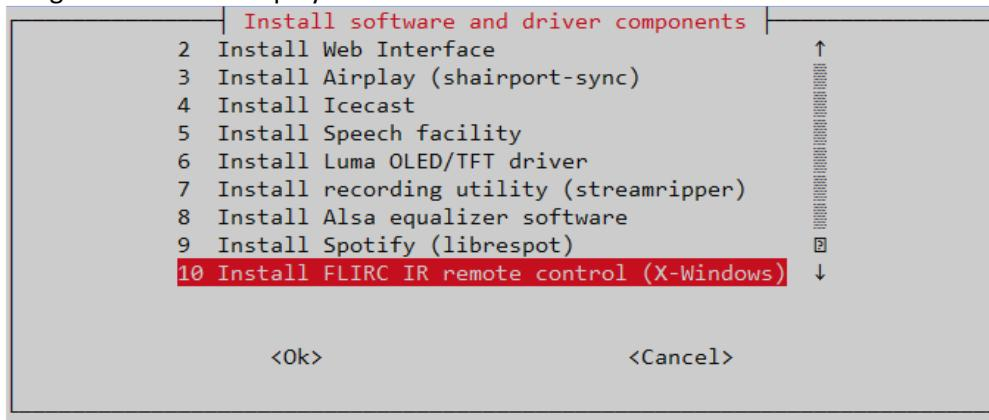

Figure 214 Install FLIRC IR remote control
- Select option **10 Install FLIRC IR remote control (X-Windows)** from the **radio-config** menu shown in *Figure 214 Install FLIRC IR remote control* on page 161. Note that you will need to use the down arrow key on your keyboard to see option 10.